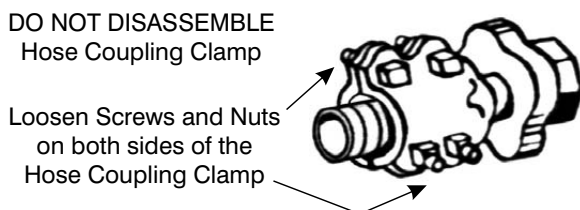

Figure 9-29. Open Hose Clamp
- 3. Do not disassemble the Hose Coupling Clamp. Only loosen the square head screws and nuts of the Hose Coupling Clamp. Refer to Figure 9-29.